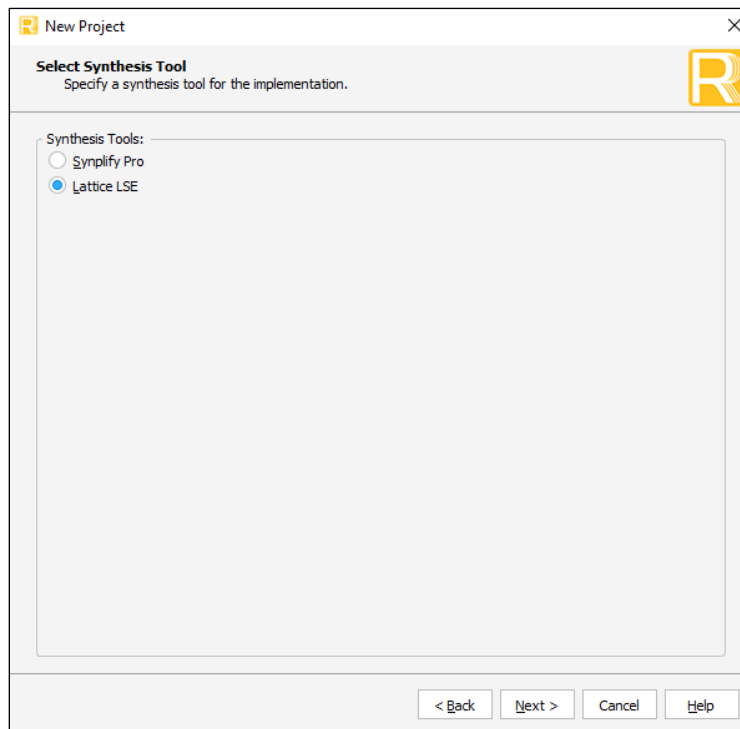

Figure 4.3. Synthesis Tool Selection
5. In Select Synthesis Tool, shown in Figure 4.3, select the synthesis tool to use. Click **Next**.